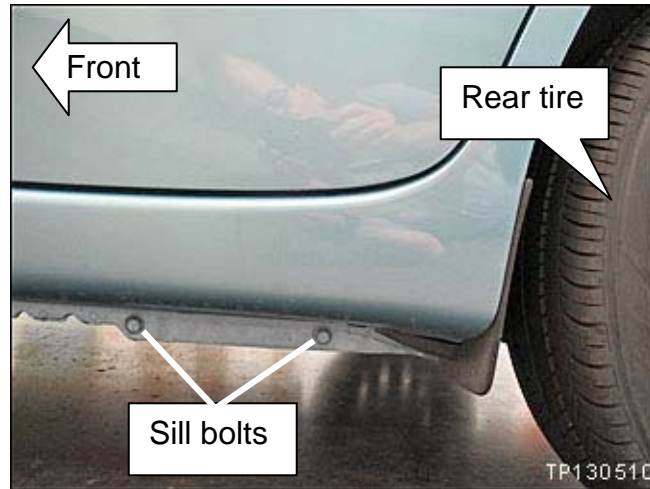

Figure 1
1. Locate the 2 lower body sill bolts on the left or right side (see Figure 1).